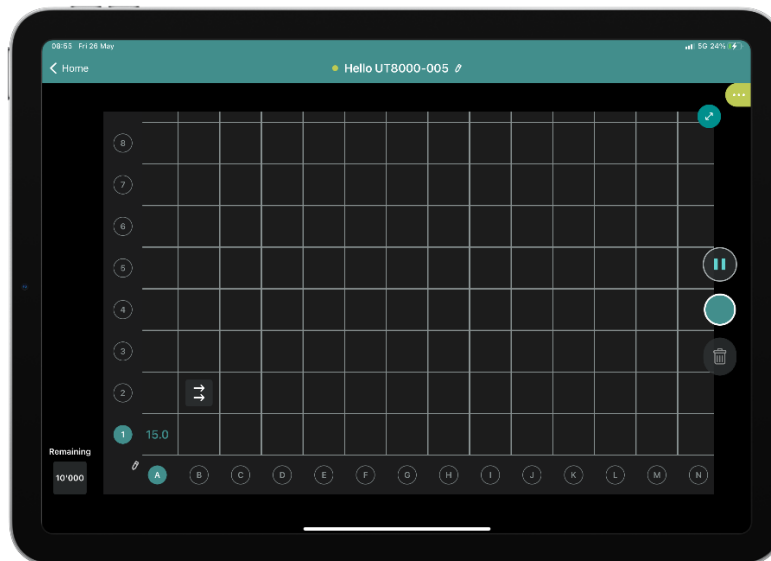

Figure 41: Grid sizing
In case the dimension of the grid is exciding the screen you simply need to scroll, with one finger, up/down or left/right to move it. Once you select a cell, the equivalent letter and number are highlighted on the screen to better identify the position inside the grid. In the figure 41 you see the number 1 and the letter A marked in blue.
- Move the encoder for the distance selected. On your screen you will see the encoder icons (see figure 41)